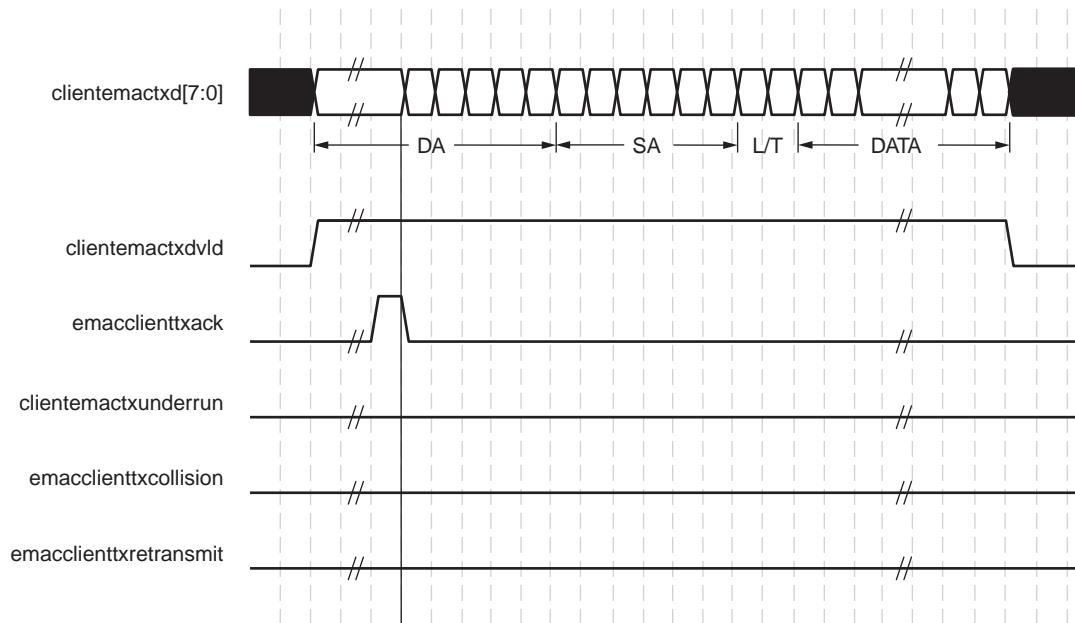

Figure 6: Normal Frame Transmission across Client interface
**Figure 6** displays a typical frame transmission at the client interface. All signals are synchronous to the txgmiimiiclk clock (not shown). The vertical dotted lines represent either a rising edge of the txgmiimiiclk clock (when clock enables are not in use), or a clock-enabled cycle (when clock enables are in use). If used, clientemactxenable is the clock enable signal. See the User Guide for further information.